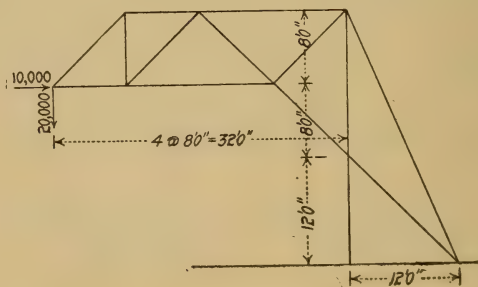

FIG. 6.
2. Find stresses in frame (Fig. 6) analytically.